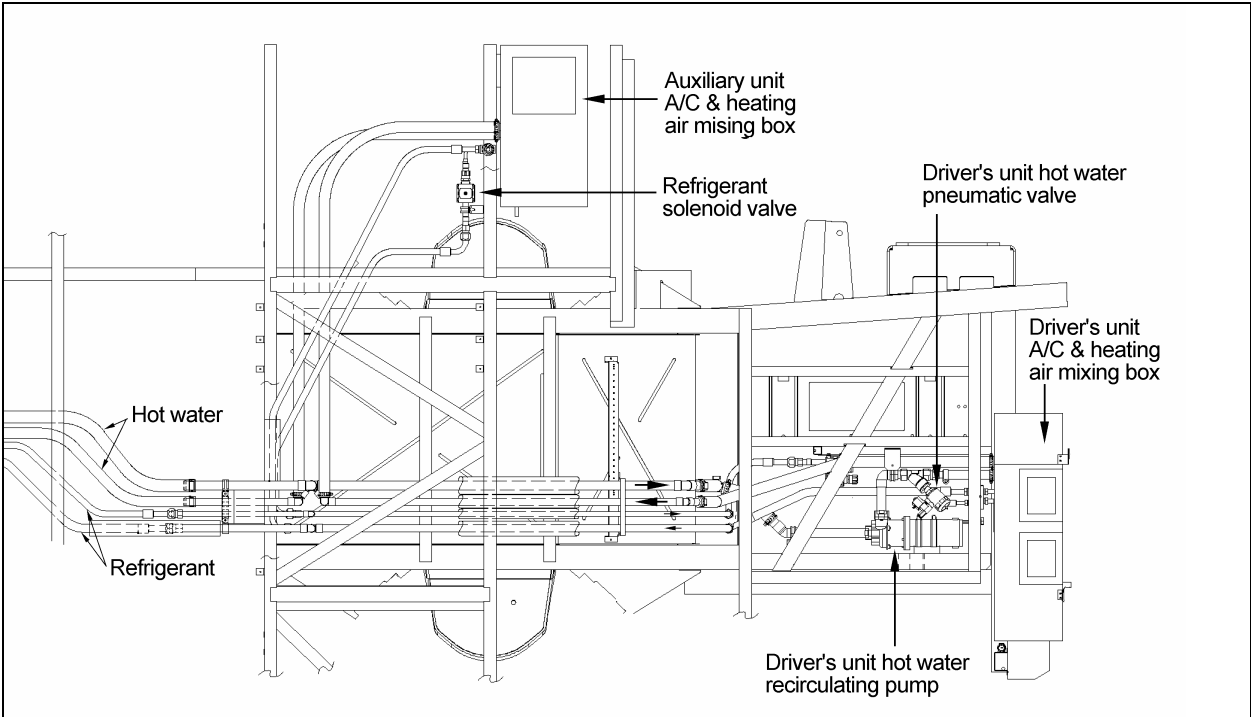

FIGURE 42: SMALL HVAC SYSTEM - DRIVER'S AND AUXILIARY UNIT
2. Locate the normally open hot water pneumatic valve on the ceiling of the spare wheel compartment (Figure 42), disconnect its wiring connector, then connect a 24-volt external power source, using jumper cables, to close valve.